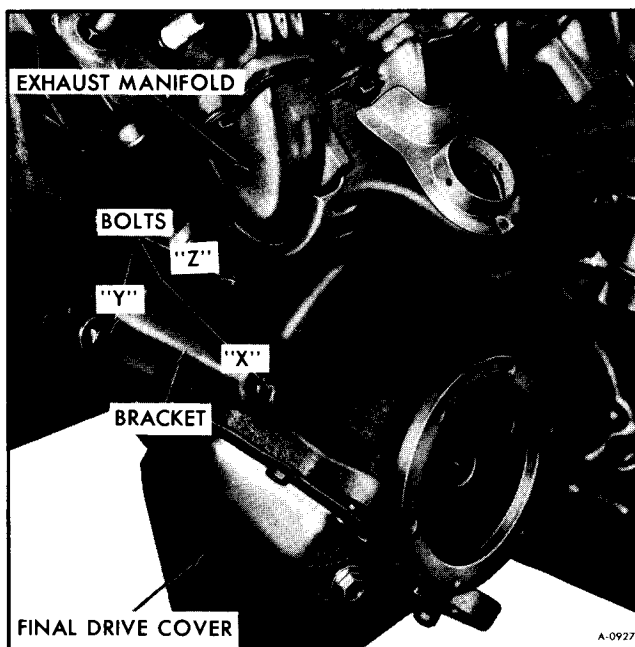

Figure 63—Disconnecting Final Drive From Engine
13. Remove bolt "Z". (See figure 63).
14. Remove three (3) bolts that secure the converter to the flywheel.
7. Referring to Figure 63, install bolt "Z" and torque to 105 ft. lbs.